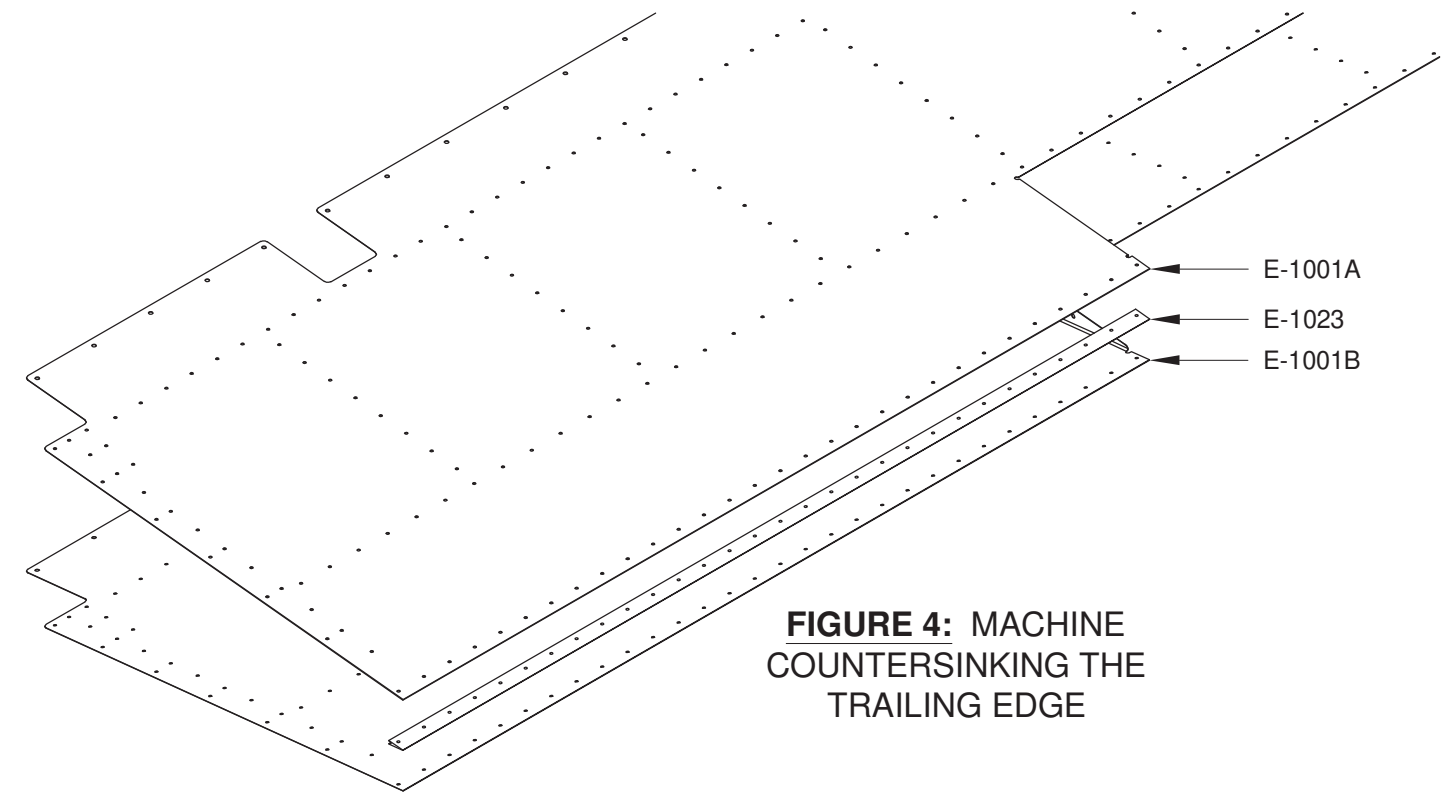

FIGURE 4: MACHINE COUNTERSINKING THE TRAILING EDGE
Step 5: Machine countersink the holes on both sides of the E-1023 Trailing Edge, shown in Figure 4, for the 3/32" dimples in the skins. Countersink perpendicular to the trailing edge face.
Fuel tank sealant requires a clean, scuffed surface for proper adhesion. To accomplish this, mask the inside surfaces of the E-1001A & B Skins around the locations for the trailing edge ribs (the rib locations can be found on Page 9-15, Figure 4) and half an inch forward of the rows of rivet holes where the E-1007 Rear Spar will be attached.